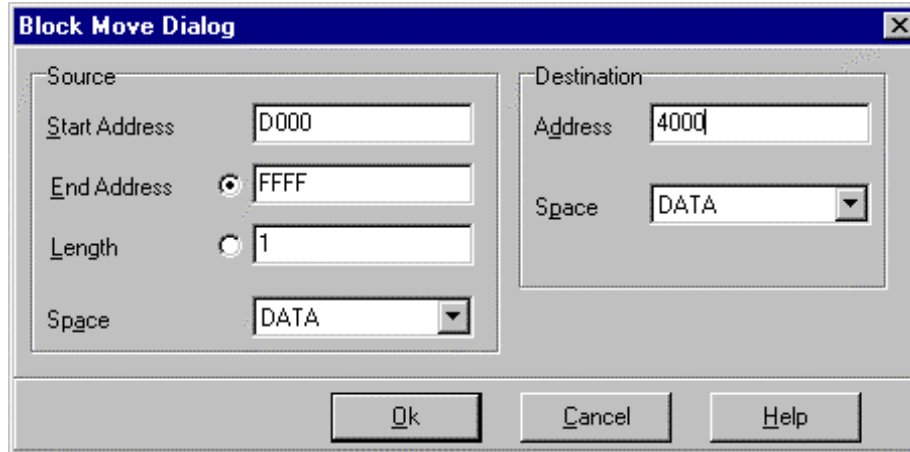

Figure 79. Block Move Dialog Box 1
2. Right-click in the Data window. Select **Block**, then click **Block Move**. The **Block Move** dialog box opens. Enter data as shown in Figure 79: